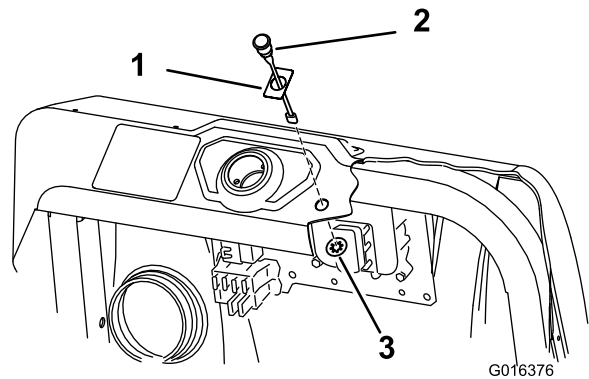

Figure 16
1. Install decal 94-8582 over the light hole in the dash (Figure 16).
2. Install the light in the dash and secure it from underneath the dash with the push nut (Figure 16).